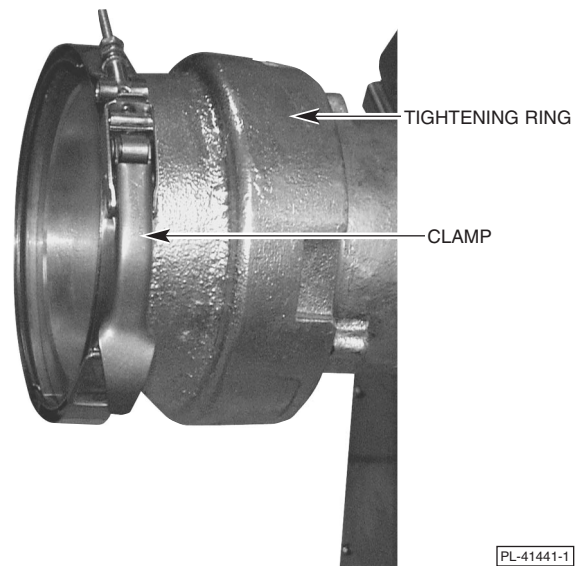

Fig. 5
6. Assemble the Tightening Ring shipped with the Hollymatic Bulker to the cylinder of the Hobart Mixer-Grinder (Fig. 5). A second clamp (also sourced from Hollymatic, Fig. 5) must be used to clamp the Bulker Adapter to the Tightening Ring.